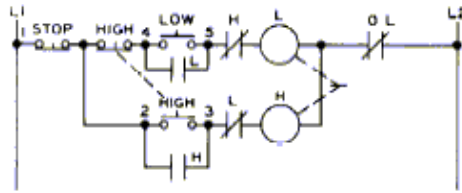

Fig.44 Two Speed Starting
Two contactors, one for high speed and one for low speed are needed. The circuit in Fig. 44 can be started up in either low or high speed. Also, it can go directly from low to high speed. However, before the motor can go from high to low speed, stop must be pushed. If the motor is going at high speed, pressing the low-speed button will have no effect, as stop button must be depressed first.
28. Two Speed Starting (Fig.44)